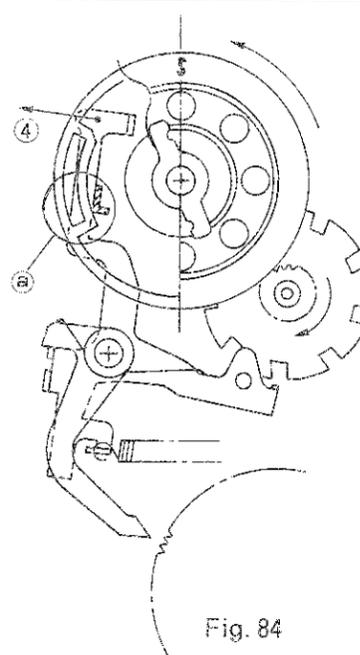
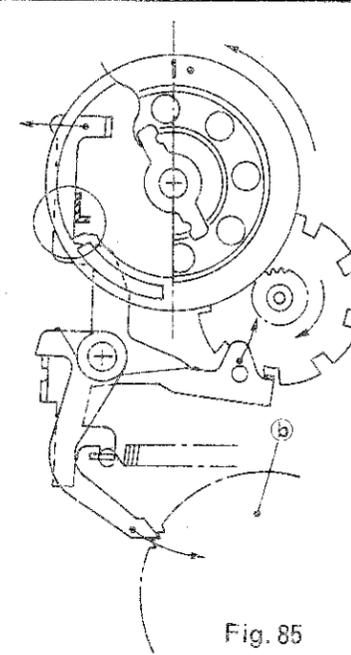

Fig. 84
Fig. 85
2. When the exposure counter disk rotates, the movement of lever (4) is restricted by the protrusion (a) (Fig. 84) of counter disk, and lever (4) (Fig. 85) is disengaged by the restriction of protrusion before the counter disk No. is 1, then the tip of (4) hits against the top of dividing device (Fig. 86), and when the film is advanced, the dividing device attempts to rotate, but the rotation of dividing device is restricted according to the friction of tip (4), and the pin (d) of gear (12) charges spring (e), rotating the dividing device. When Exposure Counter No. is 1, the tip of (4) jumps into the slit, whereby the signal pin (5) is returned to the holder side, transmitting the completion of wind-up at the holder side.